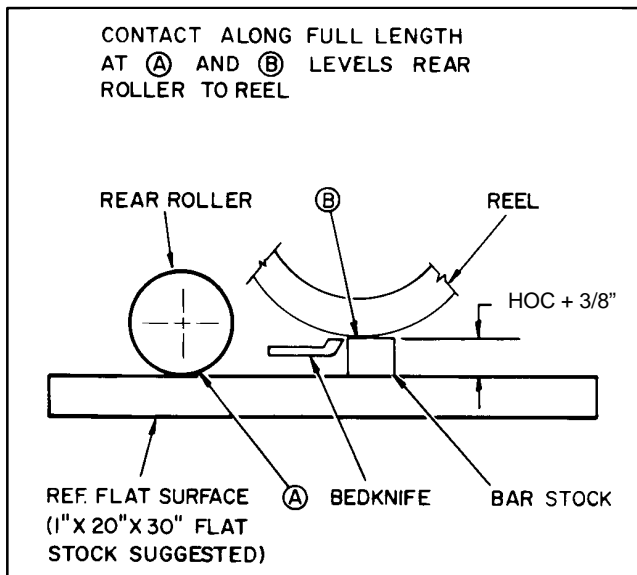

Figure 8
- C. Insert a piece of bar stock 25" – 28" (70 cm) long (Fig. 8), and approximately 3/8" (9.5 mm) thicker than the desired height-of-cut, under the reel and up against the bedknife cutting edge (Fig. 8). The reel (not bedknife) must contact the bar stock along its full length.